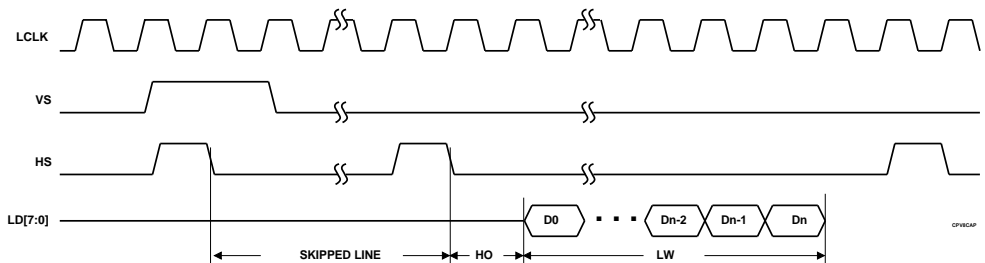

Figure 11-14. Video 8 In or 16 Mode Input
The SAA7110 then sends video data as shown in Figure 11-14. In this figure, both VSYNC (VS) and HSYNC (HS) have active high polarity. The vertical offset (MMFF28_24-16) is 1, meaning the first line is skipped. The horizontal offset HO (MMFF28_11-0) is 1, meaning that the first data starts one clock after the second HS goes low. HS goes high again some time after the last byte of the line, whose position is specified by the line width (LW) programmed in MMFF24_11-0. The widths of the VS and HS pulses shown may vary.